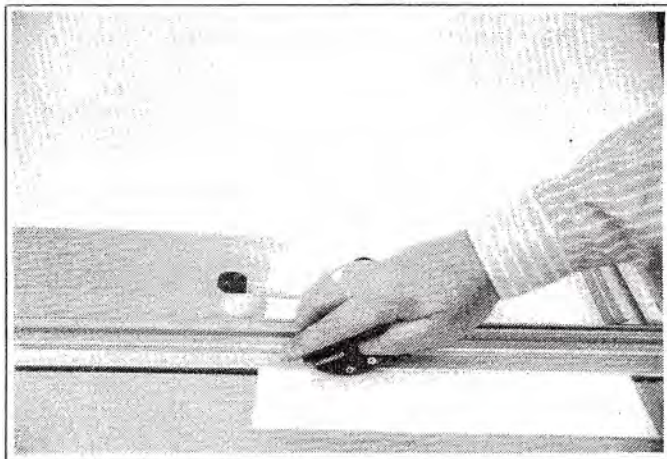

Fig. 7
4. Place a piece of mountboard under the slideway (without a slip sheet), with one edge firmly against the squaring arm (8) and the other edge against the squaring arm stop (7).
5. Depress the vertical blade holder (5) fully with the right hand (Fig. 7) and, maintaining a steady pressure, draw the cutter head assembly smoothly towards you until it comes up against the end-of-cut stop (12). It is quite normal to make a number of cuts on very thick boards or when cutting several boards. You can cut up to six boards together.
6. Re-set the squaring arm stop (7) on the squaring arm scale (9) to the other desired dimension of the mount, and turning the mountboard 90°, repeat the steps 4 and 5 for the outer edge.